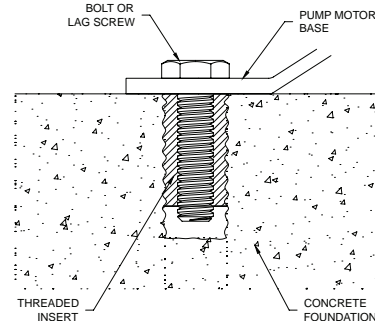

Figure 4
- Lag screws or bolts screwed into threaded inserts in the concrete are recommended for mounting close coupled pumps, rather than studs set into concrete (Figure 4 on Page 6). This permits removal of the drive motor without disturbing the pump liquid end or the piping.